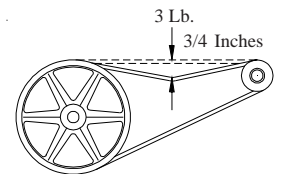

Fig. 8
• **Check belt tension.** A 3 lb. force should deflect the belt 3/4 inches (see Fig. 8). Readjust belt if needed.